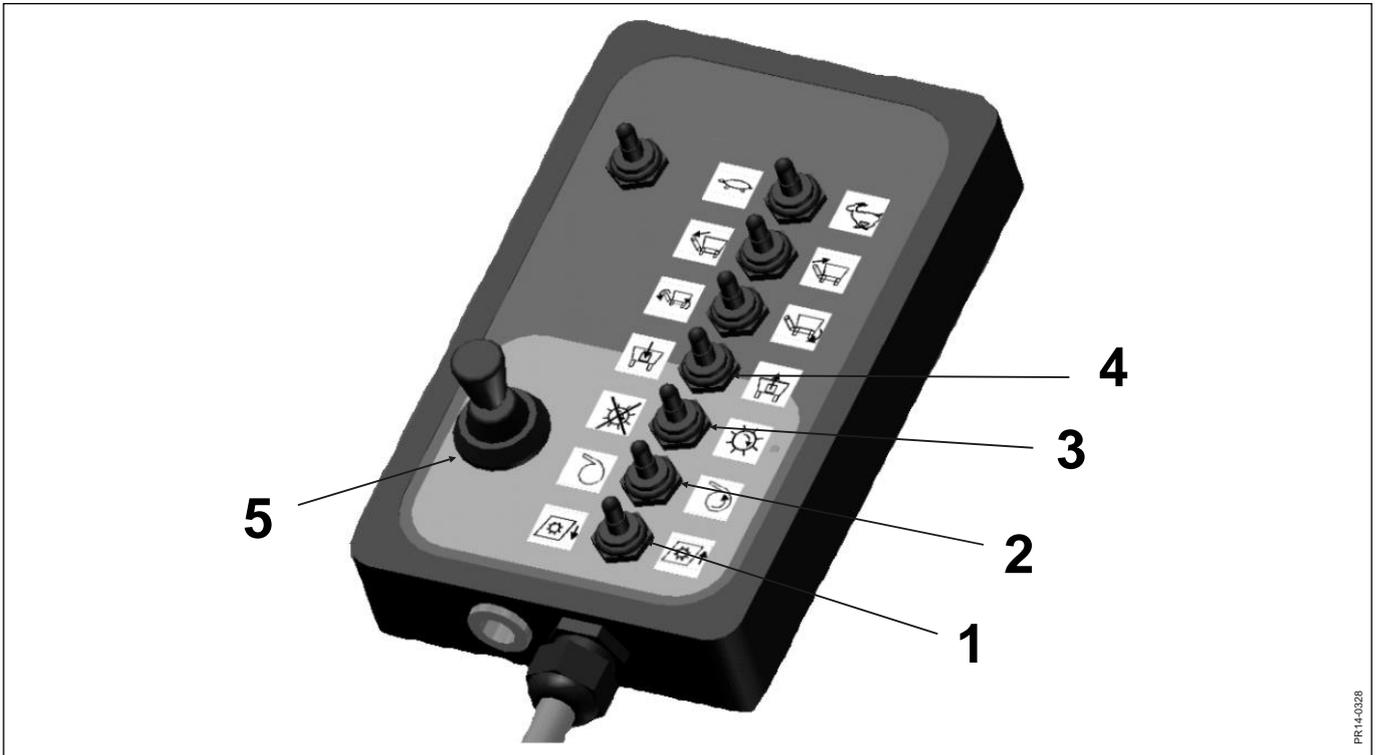

Fig. 2-6
**Fig. 2-6** Before the bedding material is loaded, make sure that the front door is closed. It is closed by pushing switch 4 to the left. Also make sure that the cross conveyor is empty.